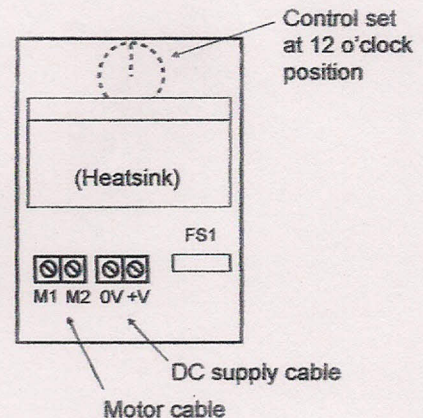

Figure 3
3. Securely connect the input and output leads to the screw terminals shown in Figure 3. The control knob marker should be initially set to the 12 o'clock (vertical) position to prevent the motor starting when the supply connection is made.